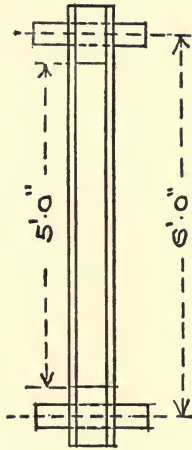

Fig. 4.
8. Fig. 4 illustrates a strut made up of two flat strips  $3'' \times 1''$  riveted at their ends to distance pieces holding the strips parallel to one another. Pins pass through these distance pieces in the manner shewn. If these pins are pushed towards one another, the pins remaining parallel and vertically above one another, find what is the greatest load the strut will support without buckling.